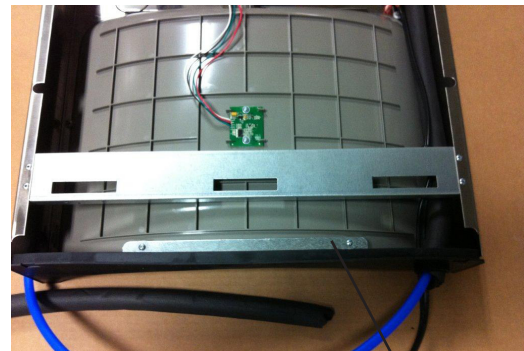

Fig. 9
- 6) Install gasket on bottom of bottle filler tower with gasket bracket & (2) screws (See Fig 9).